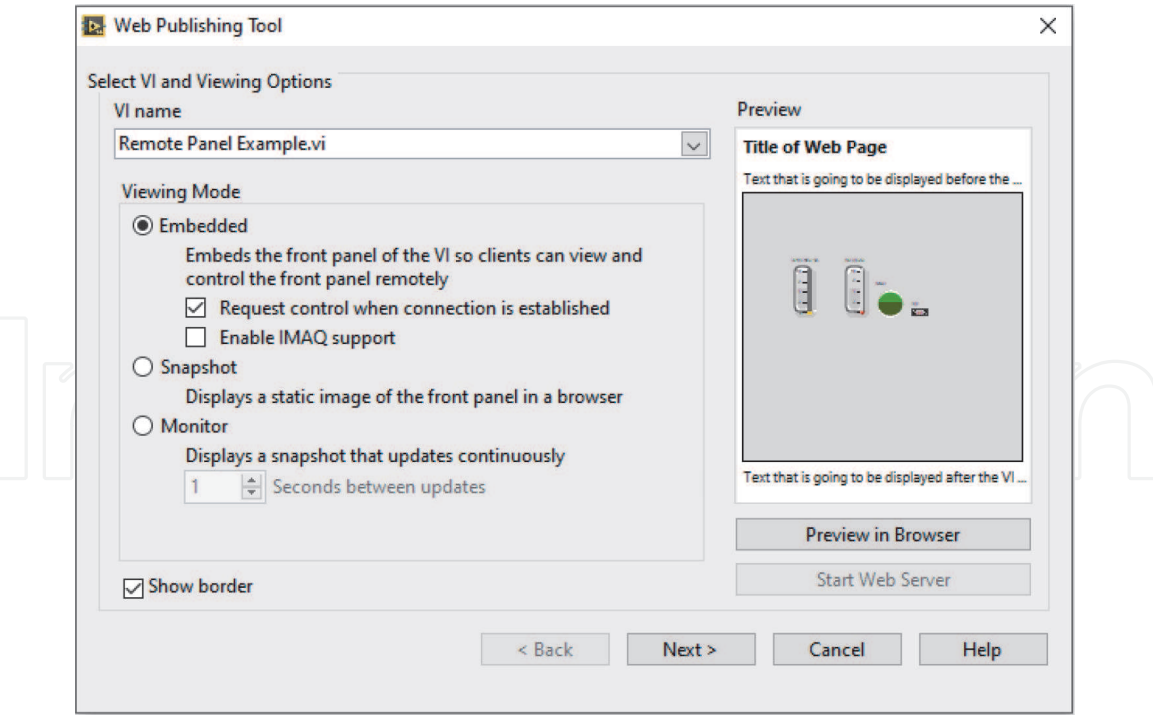

Figure 23.
8. Under **Select VI and Viewing Options** section, select the VI. After selecting appropriate **Viewing Mode** click Next (Figure 23).